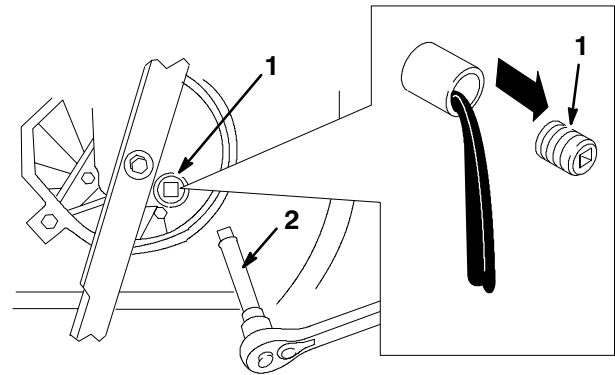

Figure 16
5. Remove the oil drain plug, return the lawn mower to its operating position, and allow the oil to drain into the drain pan (Fig. 16).